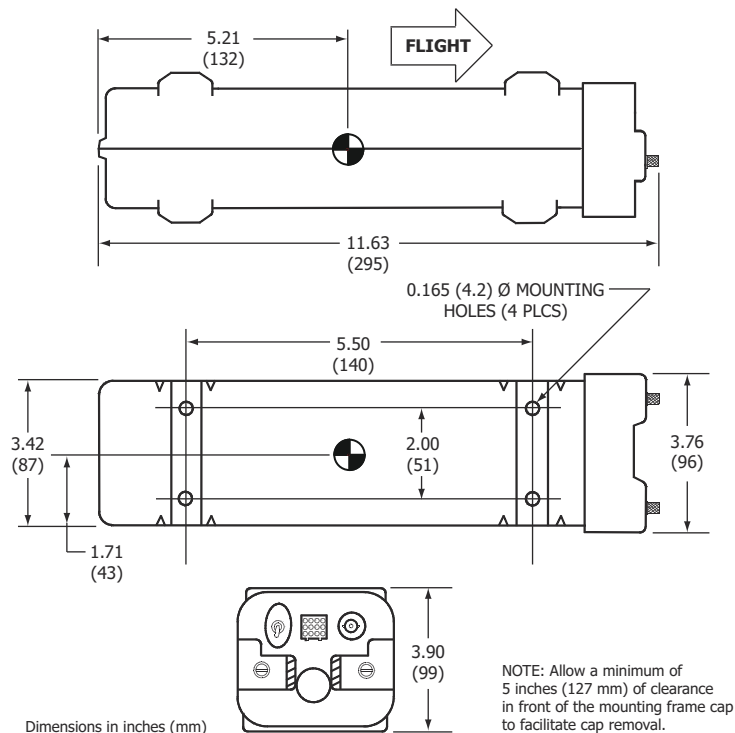
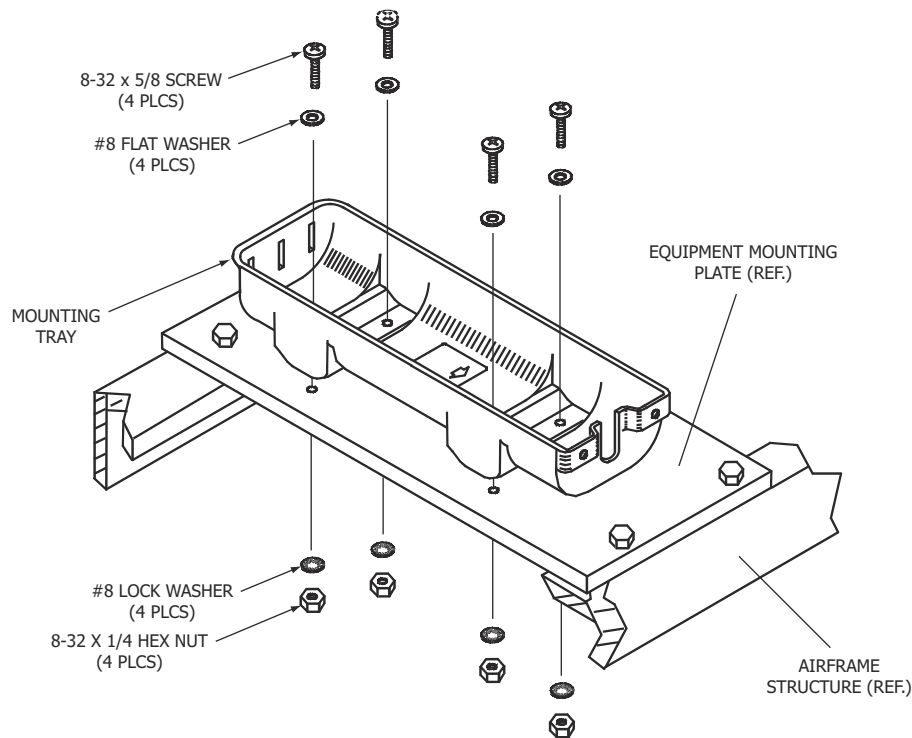

Figure 14. C406-1 Series ELT Outline and Dimensions
Figure 15. Typical Mounting Tray Installation
- (1) Select a suitable location for the mounting tray. See "Figure 14. C406-1 Series ELT Outline and Dimensions". Refer to these dimensions when determining mounting location.
- (1) See "Figure 15. Typical Mounting Tray Installation".
- (4) Mark the four holes needed for mounting the tray, using the tray as a pattern. The hole pattern is also illustrated in "Figure 14. C406-1 Series ELT Outline and Dimensions", on page 57.
- (5) Drill the four mounting holes with a #19 or 4.25 mm drill.
- (6) Install the mounting tray with the 8-32 x 5/8" SS pan head phillips screws, flat washers, lock washers, and nuts provided in the installation kit (455-7421), as shown in "Figure 15. Typical Mounting Tray Installation", on page 58.